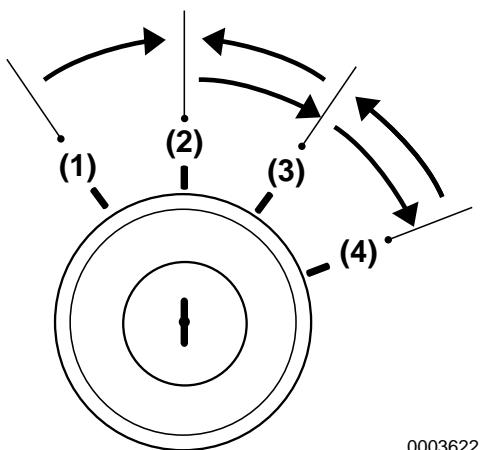

Figure 15
The GLOW position (**Figure 15, (1)**) is the start aid position. Electric current to the glow plug or air heater (if equipped) is turned on. The air heaters are standard on the 4JH4AE and optional on the 3JH4E, 4JH4-TE and 4JH4-HTE models. When the key is released, the switch will automatically move to the ON position.
The START position (**Figure 15, (4)**) allows current to the starting motor. When starting the engine, move the key to the START position and release. The key will automatically move to the ON position.
When the key is in the OFF position (**Figure 15, (2)**) the electric current is off. The key can be inserted or removed in this position.
The ON position (**Figure 15, (3)**) allows electrical current to the controls and equipment and allows the engine to keep running. To stop the engine, keep the key switch in the ON position and push the stop button. After stopping the engine, turn key to OFF position.